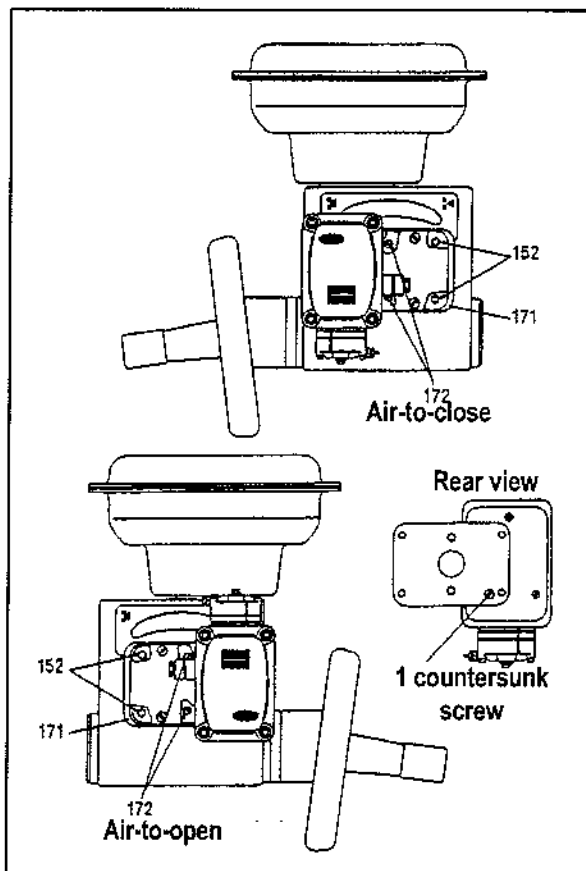

Figure E1 - Mounting position of 8013 Series positioner
With two cap screws (152) and a countersunk screw, assemble the mounting plate (171) on the molded bracket of the positioner and on the positioner. (The molded bracket is already fastened to the positioner with two fillister-head screws). Then secure this assembly on the valve yoke with two countersunk screws (172). The orientation of the positioner on the valve depends on the actuator action. It is indicated in figure E1.